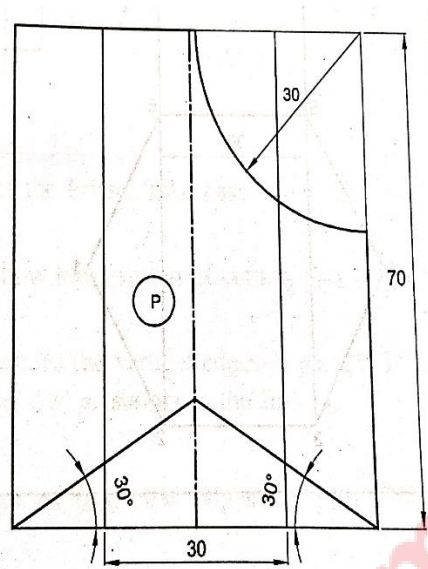

Fig. 1 Hexagonal Prism
- (b) Draw development of surfaces of portion – p of the cut Hexagonal Prism as shown in fig. 1 07